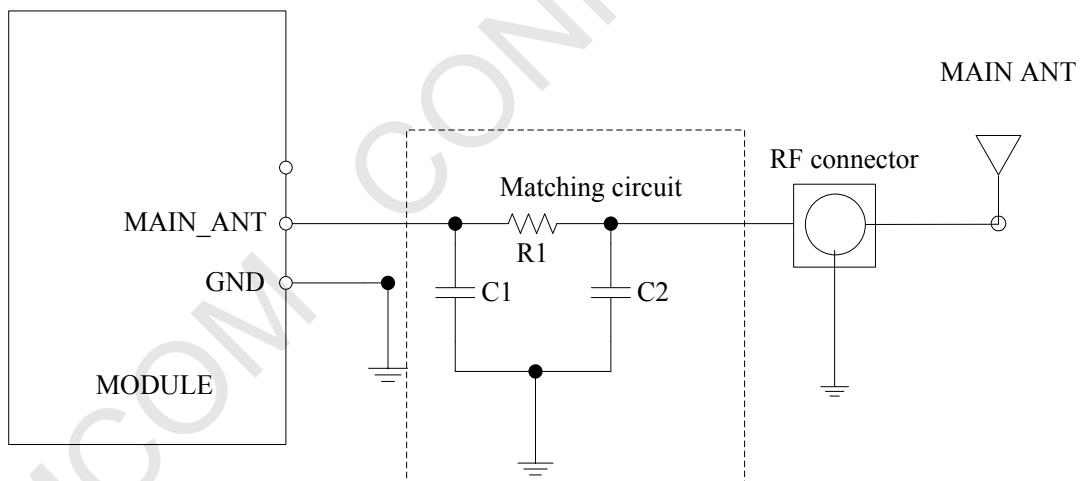
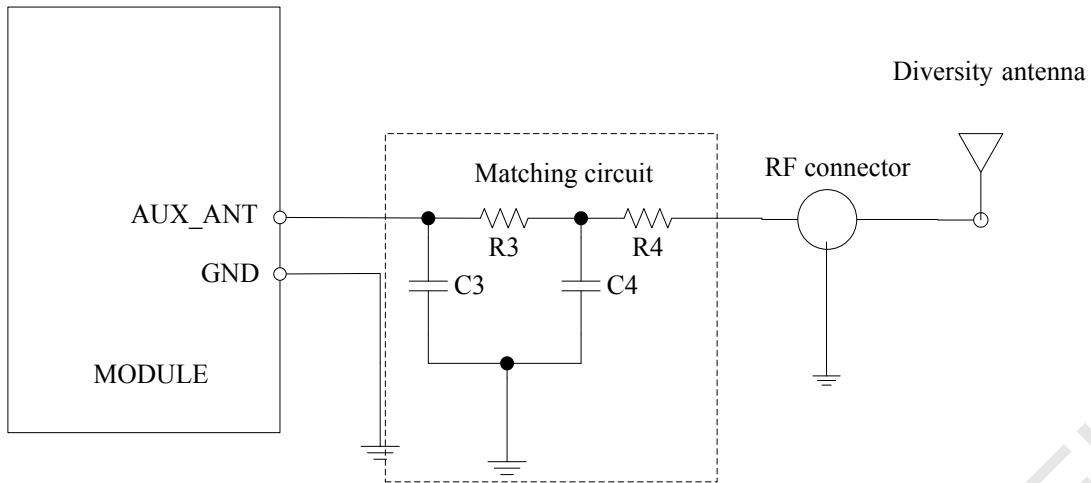

Figure 23: Antenna matching circuit (MAIN_ANT)
Figure 24: Antenna matching circuit (AUX_ANT)
The RF connector in the module side is an ultra small surface mount coaxial connectors (Part Number: U.FL-R-SMT, vended by HRS). It has high performance with wide frequency range, surface mountable and reflows solderable. Following are parameters (Figure 23). Certainly user can visit <http://www.hirose-connectors.com/> for more information.
To get good RF performance in user's design, SIMCom suggests user to use the matching RF adapter cable which is also supplied by HRS (Part Number: U.FL-LP (V) -040), the following figure (Figure 24) is the dimensions of U.FL series RF adapter cable. User can contact SIMCom for more information.
In above figures 24 is the default state, use the passive antenna and the VDD_EXT do not output voltage. In above figures 23 use the active antenna, users need to open the VDD_EXT by AT+CVAUXS=1,then VDD_EXT output 2.95V .If users want to change the voltage of VDD_EXT, use this AT command: “AT+CVAUXV”. For example, if customer needs the output voltage value to be 1.8V, the At command is required to “AT+CVAUXV=1800000”. The output voltage range of VDD_EXT is from 1.7V to 3.05V.